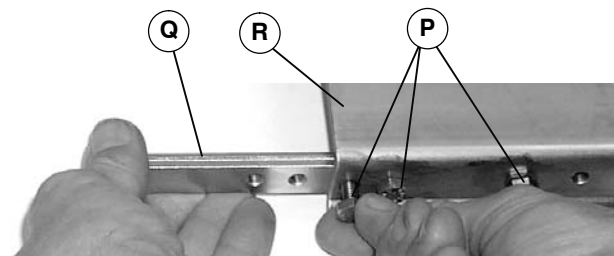

Figure 7
3. Install frame connecting bar (Q of Figure 7) on conveyor frame (R) with three screws (P). Do not tighten screws.